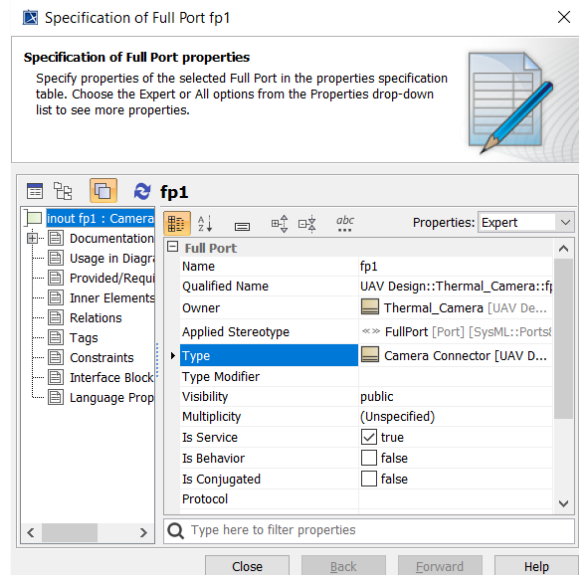

Figure 4 Specification window for full port
- Right-click the **Thermal Camera** block in the browser. Select Create Element → Full Port. Open the specification for the full port (Figure 4), set the name to **fp1** and the Type to **Camera Connector**.